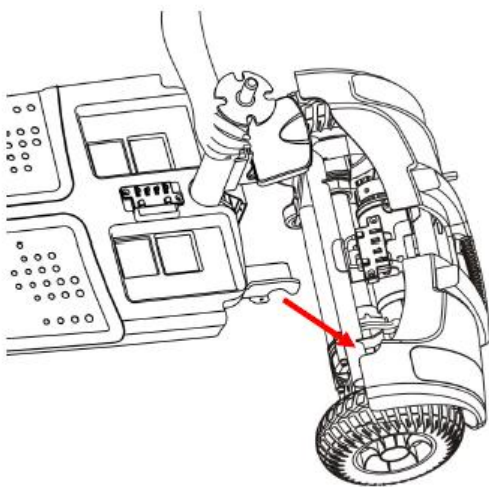

Fig 4.1.6
2. Fit the rear section at the top and make sure the front section hook is connected to the rear section shaft. (See figure 4.1.6).